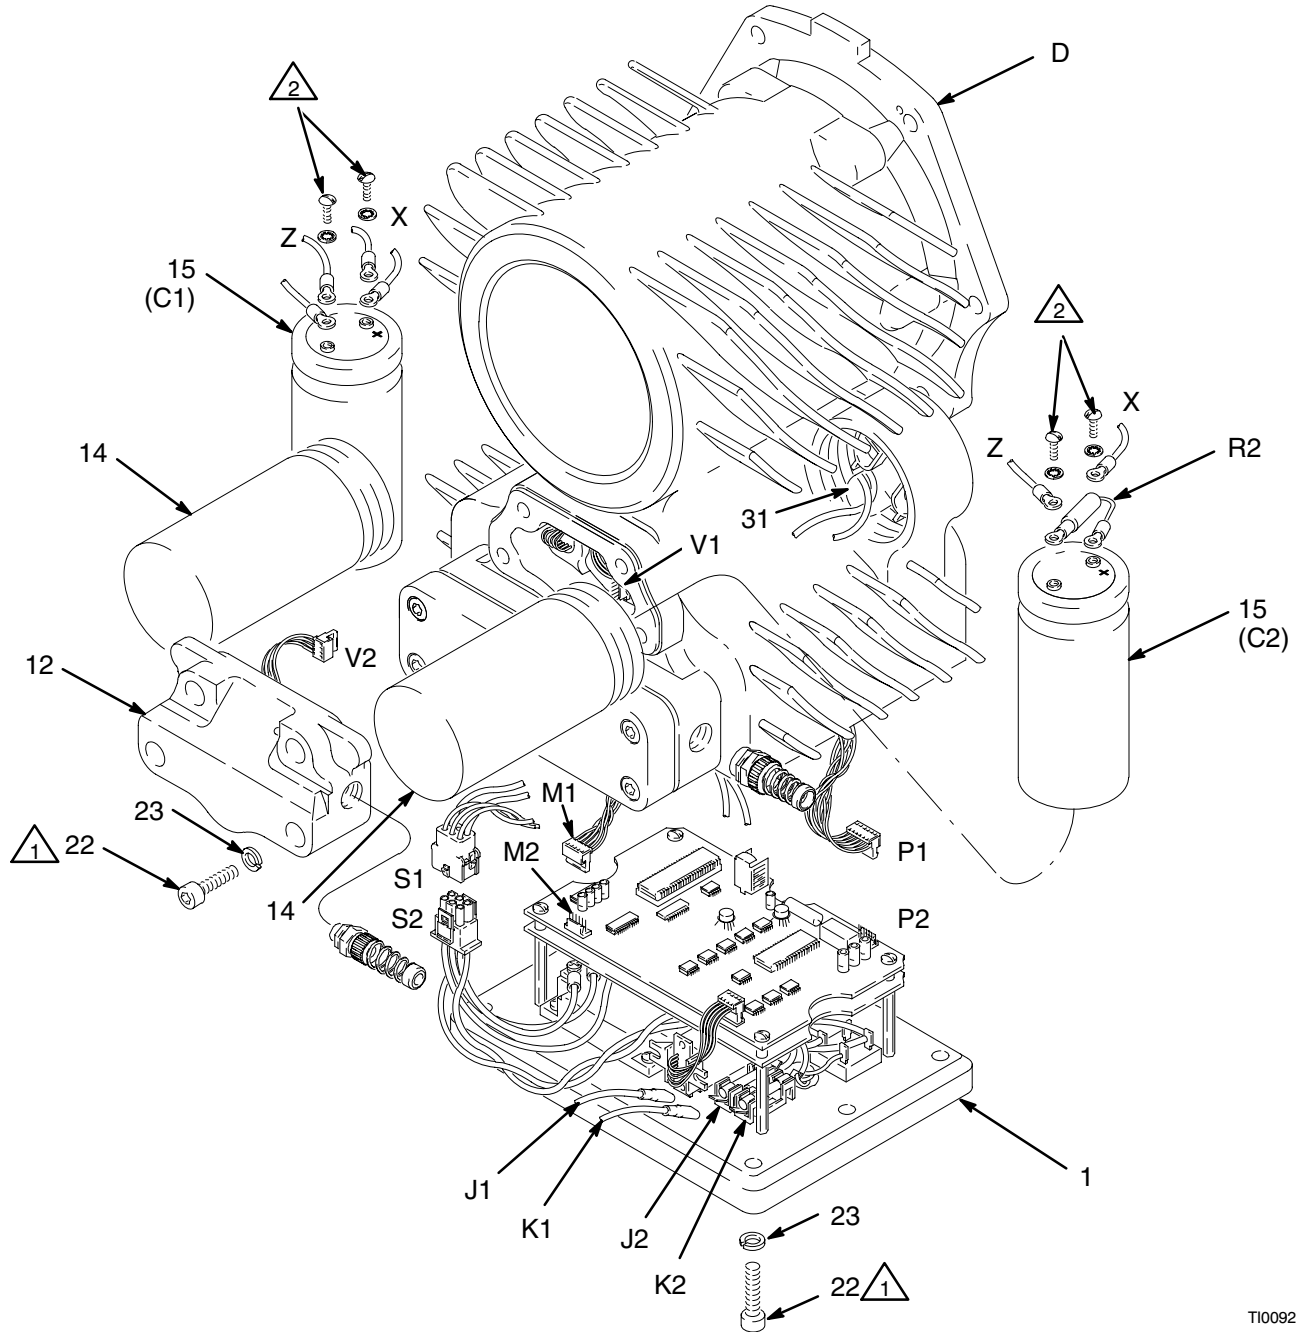
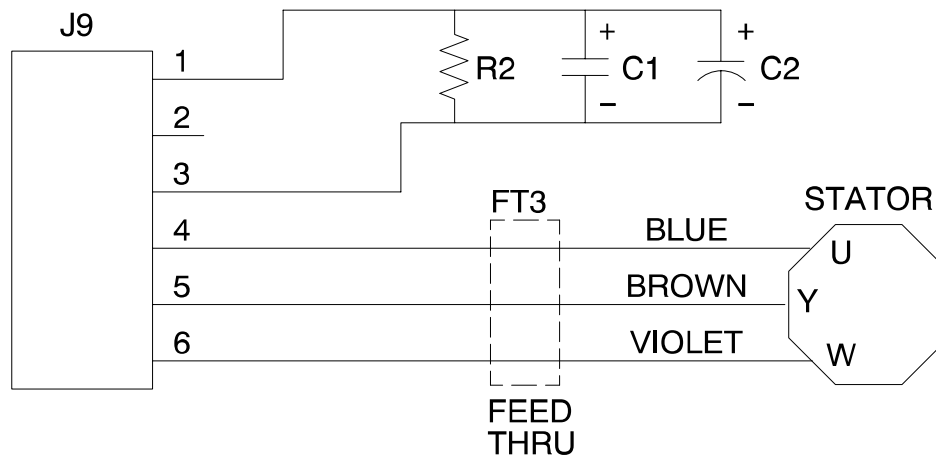

Fig. 5
Fig. 6
2. Remove the screws (22) and washers (23) holding the control module (1) to the motor housing (D). Carefully move the module away from the housing. See Fig. 5.
4. Disconnect the 6-pin (M1) and 7-pin (P1) connectors from their mating connectors (M2, P2) on the module (1).
6. Remove the electronic control module (1). There are no user-serviceable parts on the module.
7. Install the new electronic control module (1) in the reverse order of disassembly. Push all the wires well up into the motor housing (D), to avoid pinching them when reattaching the module.
2. Remove the screws (22) and washers (23) holding the signal cover (12) to the motor. Carefully move the cover away from the motor. See Fig. 5.
3. Disconnect the signal cover connector (V2) from its mating connector (V1) in the motor housing (D).
4. Remove the signal cover (12). There are no user-serviceable parts on the signal cover.
5. Install the new signal cover (12) in the reverse order of disassembly. Push all the wires well into the motor housing (D), to avoid pinching them when reattaching the cover. Make sure the capacitor covers (14) do not obstruct the signal cover.
2. Remove the signal cover (12) as explained under **Replacing the Signal Cover**. Set the cover aside.
3. Unscrew the two capacitor covers (14) from the motor housing (D). See Fig. 5.
4. Carefully pull the capacitors (15; C1 and C2) away from the motor housing, enough to see the wire connections. The capacitors are wired together in parallel. Note that one capacitor (C2) has one + wire (X), one – wire (Z), and a bleed resistor (R2) connected to it; disconnect this capacitor first.
- NOTE:** If you pull the free wires out of the capacitor C2 cavity, you may have to remove the electronic control module (1) to retrieve them.
7. Install the capacitors in the reverse order of removal. Be sure the wires feed through the slot in the plastic insulators (31). Be sure to connect the + wires (X) to the + terminals and the – wires (Z) to the – terminals. Be sure to reinstall the bleed resistor (R2) on capacitor C2, as shown in Fig. 5. Torque the terminal screws to 2.7–3.4 N•m (24–30 in-lb). See Fig. 6 for the capacitor wiring diagram.
8. Turn the capacitor covers (14) in completely to ensure that they do not prevent the signal cover (12) and housing flanges from mating.